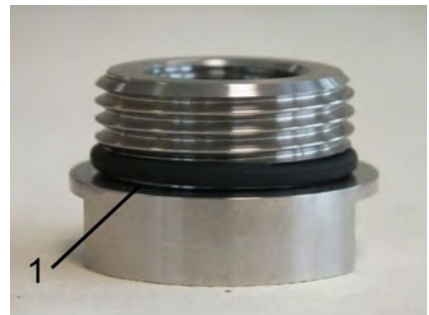

Fig. 44: Properly positioned O-ring
2. Position the O-ring properly on the process connection (Fig. 44/1)